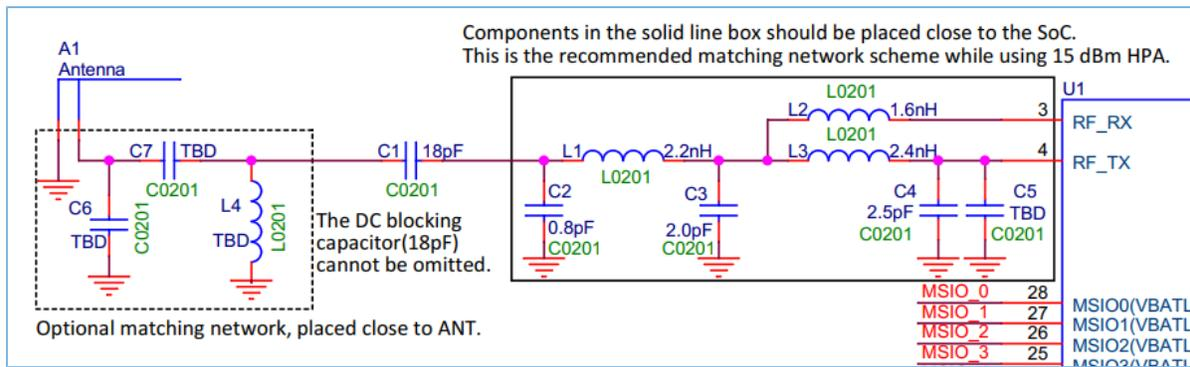
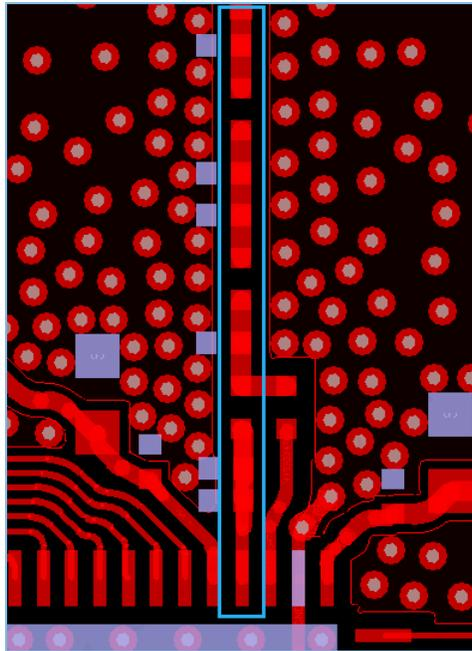

Figure 3-13 RF scheme
Figure 3-20 RF port PCB layout
Figure 3-20 shows the PCB layout of the RF port.
- Placing RF matching components on the same line with RF_TX is of high priority, as shown in the blue box in Figure 3-20. Make sure the components are placed by strictly following the RF scheme in Figure 3-13.
- Make sure no trace is routed on the reference ground beneath the VBAT_RF/VDD_RF/RF_TX/RF_RX networks near the RF port, as shown in Figure 3-20. A complete and clean reference ground helps reduce radiation.